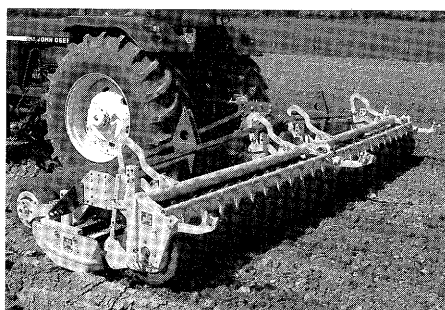

Fig. 49
- 2. Carrying arms (Fig. 49 and 50) for AMAZONE reciprocating power harrows RE 601:**